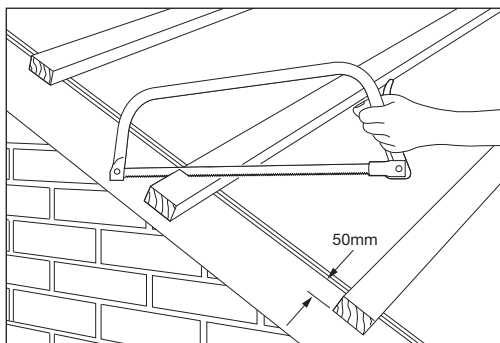

Fig 1 Position top course tiling battens
- 2 Saw tiling battens off square to overhang bargeboard or brickwork by 50mm and nail within a maximum of 500mm from ends (Fig 1).